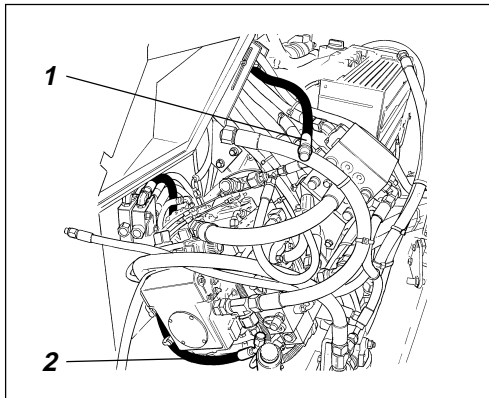

Fig. 10 Vibrator system hydraulics
- Connect hydraulic hose (482982) to the 90° elbow adapter on the flushing block, wrench 23, and lay it underneath the vibrator pumps, see fig. 10.